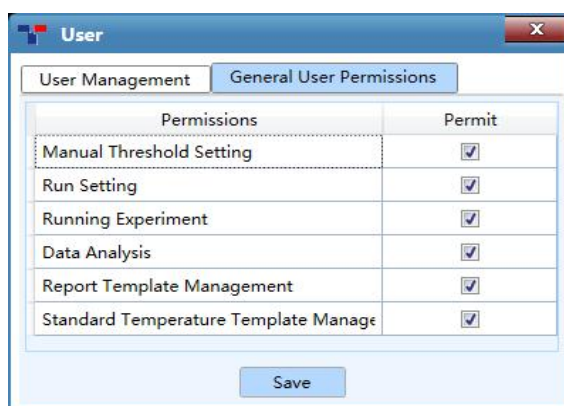

Figure D-3.9b. User Interface - General User Permissions Tab
- ▶ **General User Permissions** tab: as shown in figure D-3.9b.